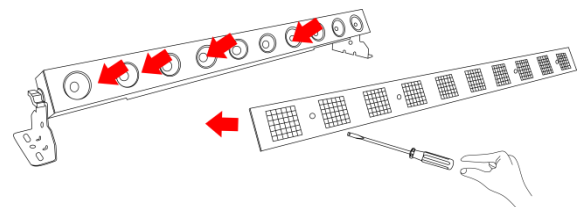

Fig.08
- 07) Put the metal housing back and fasten the screws snugly (Fig. 08).